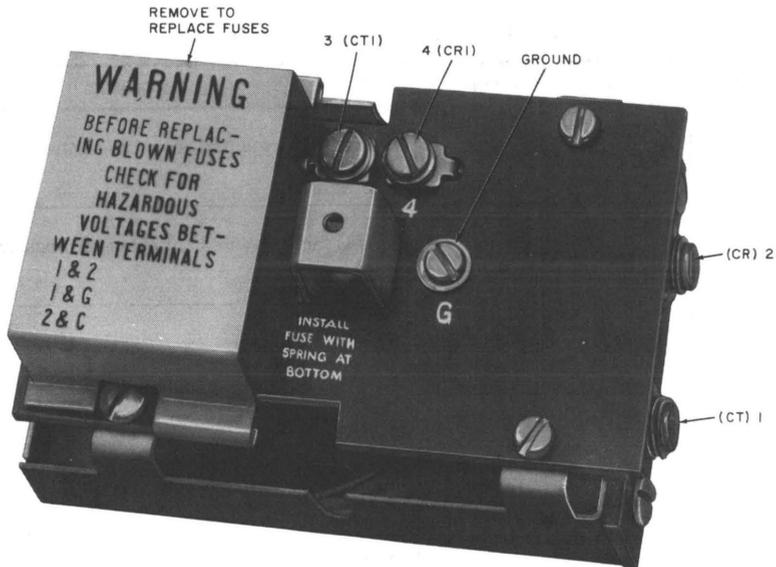

Fig. 2—34A Voice Coupler
3.01 Select a location close to the CP music or information source and mount the 34A voice coupler (Fig. 2). One 34A voice coupler will accommodate all the 451B KTUs in a system.